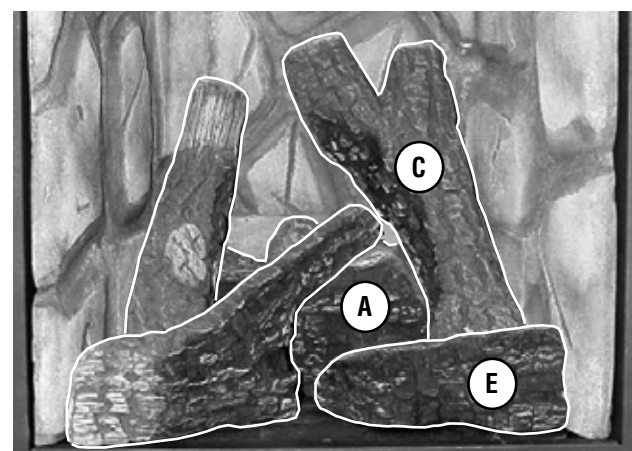

Figure 48 - Install Right Middle Log (C)
5. **Place the right middle log (C) as shown in Figure 48.** Position log C behind Log E and resting on the "flat" on Log A.